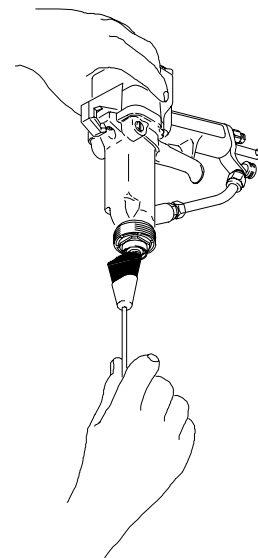

Fig. 6
- Do not use any cleaning method which may allow solvent into the gun air passages. Point the gun down while cleaning to prevent fluid from running into the air passages. See Fig. 6.
3. With the front of the gun pointed down, clean the air cap, fluid nozzle, and front of the gun, using a soft bristle brush and compatible solvent. See Fig. 6.